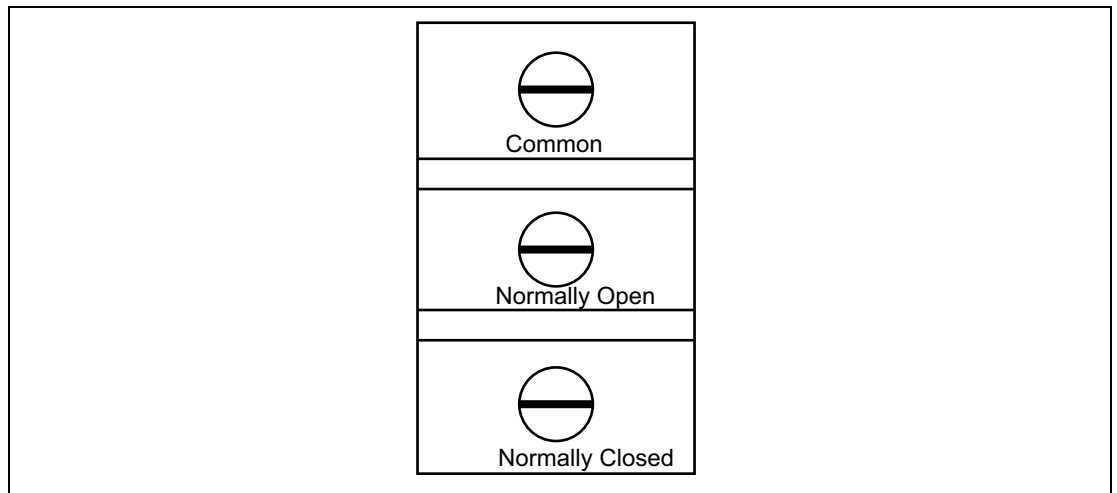

Figure 2-1: Limit Switch Contacts Diagram
Each of the SPDT limit switches, refer to Figure 5-1 on page 22, can be wired for Normally Open (NO) or Normally Closed (NC) operation by using the appropriated terminals (see Figure 2-1).